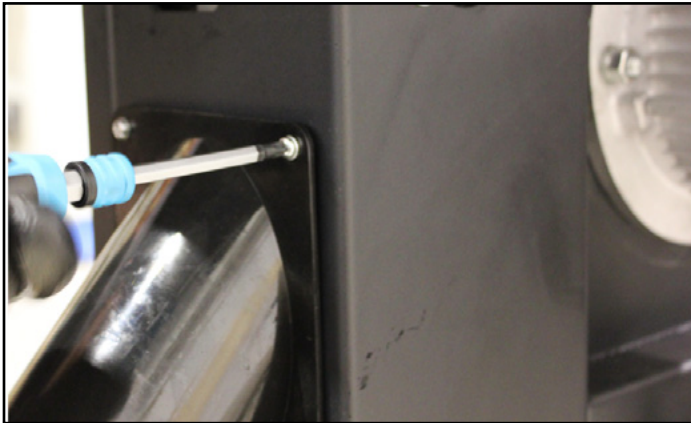

Figure 7: Installing the Dust Port.
- Using a Phillips-head screwdriver, install the dust port with four 4mm pan head screws into the pre-drilled holes in the frame. See Figure 7.